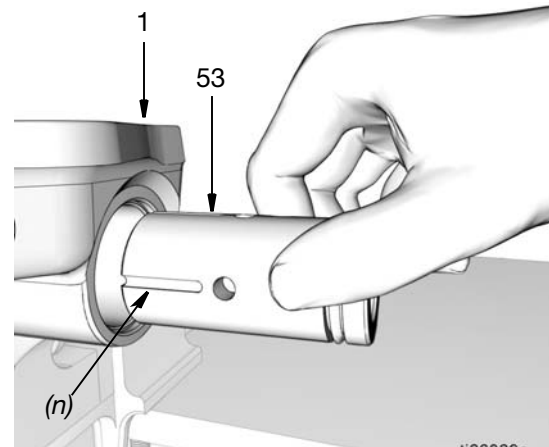

FIG. 41
- c. Install pump element sleeve (53) in the pump base (1). To determine the correct installation orientation, refer to FIG. 41.